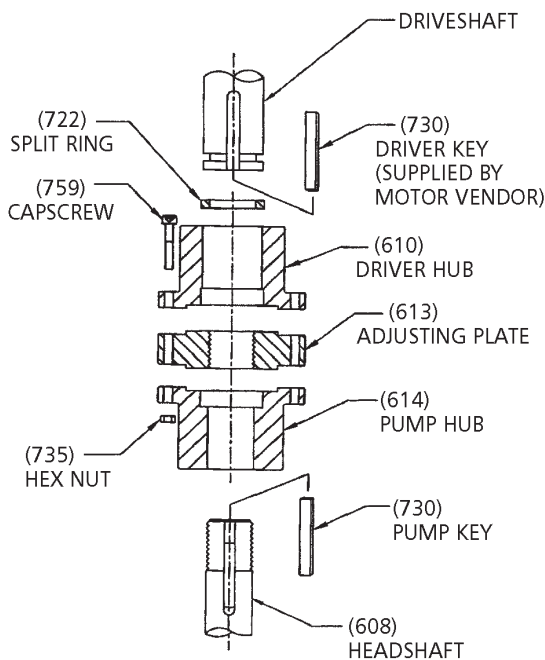
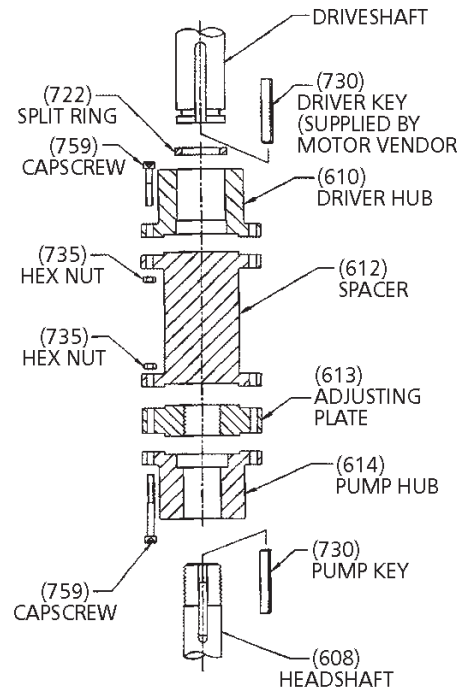

Figure 9
Figure 10
The coupling between the driveshaft and the head shaft may be a non-spacer type (see Figure 9), or a spacer type (see Figure 10). The latter is used on pumps furnished with a mechanical seal to permit servicing of the seal without removal of the driver.
COUPLING INSTALLATION: (SEE FIGURES 9 and 10)
7. If the pump is supplied with an adjustable spacer coupling (see figure 10), install spacer (612) between head shaft and driveshaft hubs. Secure with cap screws (759) and hex nuts (735).
1. With the impellers touching the bottom of the bowls, turn the adjusting plate (613) towards the driver hub (610) or spacer (612) obtain 0.015 inch clearance between the adjusting plate and driver hub or spacer for the first 10 feet of column. Add 0.010" for each additional 10 feet of column. See figure 10 or 11. **Note:** The determination of driver shaft end play can be critical and should be added to this setting. For larger pumps over 8", this amount may be too little; please refer to Outline Drawing.
2. After impeller adjustment, align adjusting plate (613) with the pump hub (614), and tightly draw coupling flanges together with capscrews (759) and nuts (735). (See figure 9 and 10).